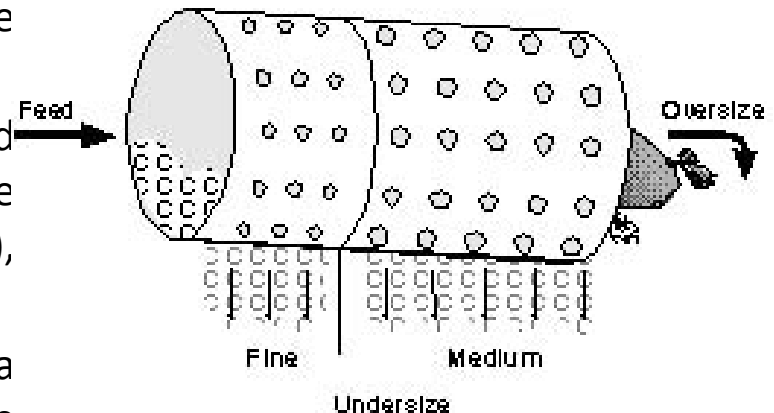

Figure 1.
**Screening (Figure 1):** Fine materials, including soil, grit, and much of the organic wastes, fall through the screen as "unders".